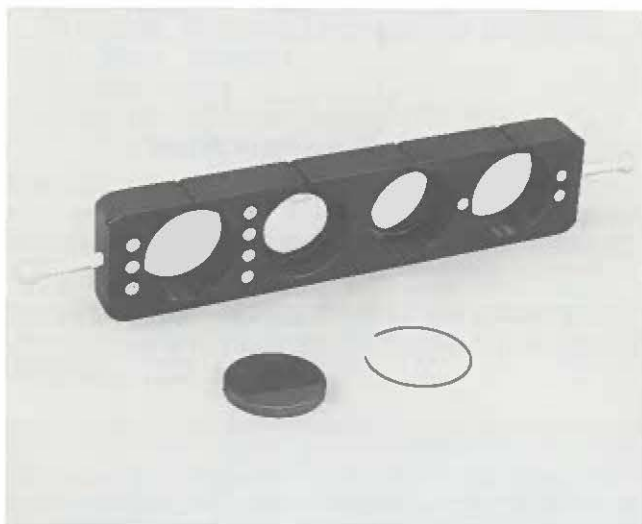

FIGURE 5-5 EXCITER FILTER SLIDER WITH FILTER AND SPRING RING RETAINER REMOVED
5.4 Replacement of Filters All exciter and barrier filters are 1 inch in diameter. The filters are held in their mounts with spring ring retainers (Figure 5-5). You can easily change filters by simply removing the retainer and filter, inserting the new filter, and replacing the retainer. Handle the filters carefully (using lens tissue or a clean cloth) during installation to prevent smudging or fingerprinting the surfaces of the filters.